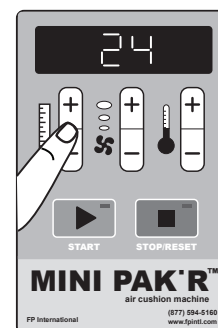

Figure 12
- **Fixed Length:** To produce a fixed length of Air Cushions, press the "+" Button until the desired length shows in the Display. The machine will count down the length of Air Cushions yet to produce. (See Figure 12)